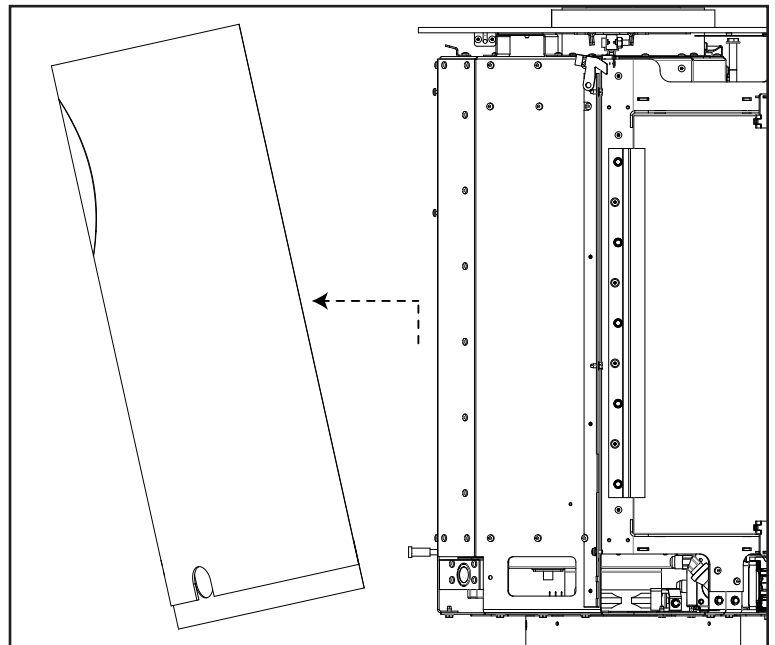

Figure 32: Rear Chassis Removal
4. Lift up to disengage the slot from the spacers and pull away from the unit (See Figure 32).